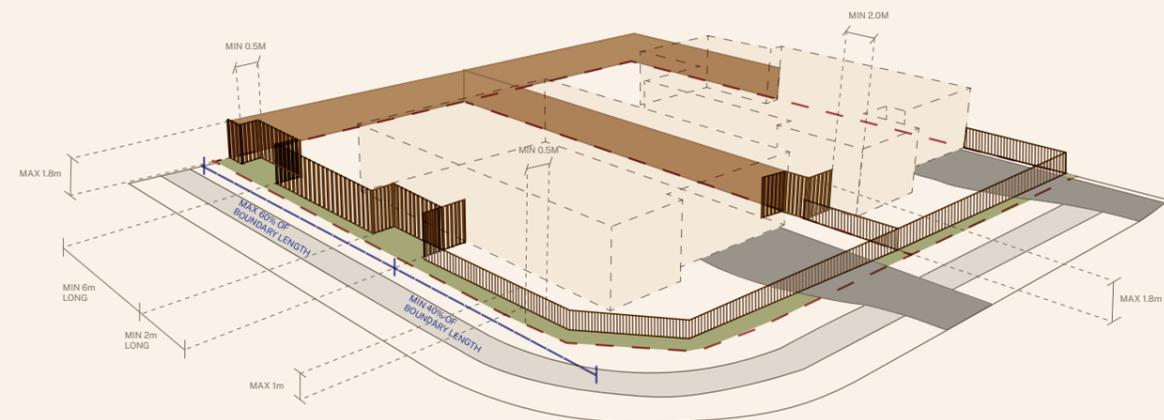

FIG 1. Fencing Diagram
- For Lot 5083, secondary boundary fencing may be up to 1.8m high, using Fence Type 1 (permeable timber battens) and set back 500 mm from the boundary, to a maximum of 60% of the boundary length. Sections over 6m must include additional setbacks to form planting alcoves as shown in Fig. 1. Alternatively, a 1m high permeable fence or hedge is required. All alcoves must include appropriate, well-maintained landscaping.